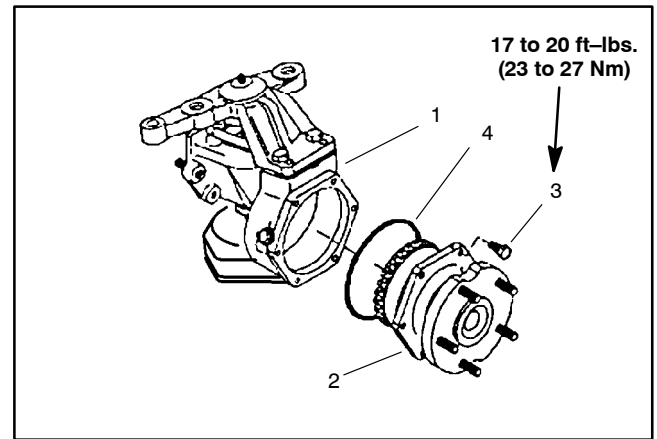

Figure 15
1. Remove the axle cover mounting screws. Remove the axle cover from the axle case as an assembly (Fig. 15).